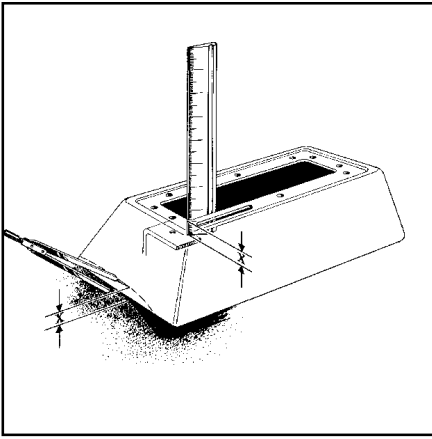

Figure 7
STEP 25. Place the black tower over the shifter mechanism until the bottom edge of the tower touches the floor. Hold the tower level to the shifter with the bottom of the tower touching the highest surface on the floor it will come into contact with (See Figure 7). Use a ruler to measure the distance X from the underside of the tower to the tower mounting brackets on the shifter mechanism.
STEP 26. Set a pair of dividers at the distance X, measured in Step 25. Holding the tower in position, place one leg of the divider against the floor while the other touches the tower (See Figure 7). Using the dividers, scribe a line around the tower that follows the contour of the floorboard. Remove the tower and trim at the scribe line using tin snips.